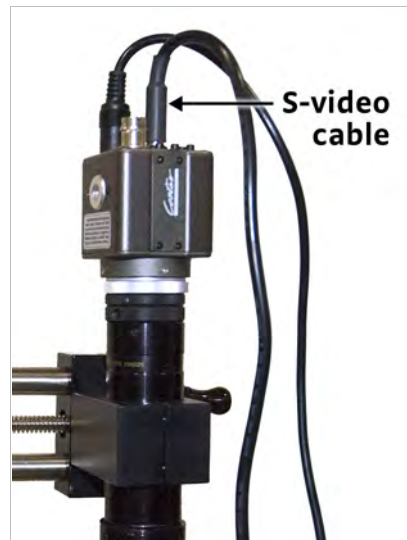

FIGURE 3-23 Attach the s-video cable to the microscope
- b. S-video cable: connect one end to the top of the microscope as well. It will align in only one direction for the connection (FIGURE 3-23). Attach the other end of this cable into the s-video connection on the monitor.